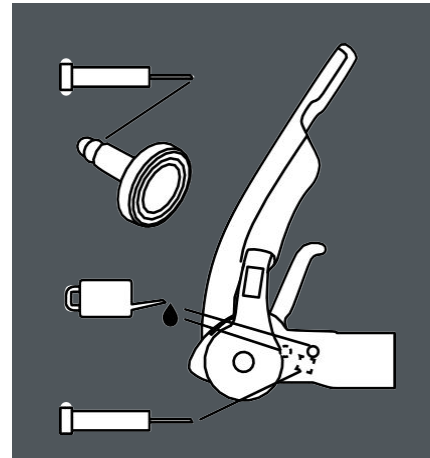

Fig 21 Lubrication points
- b. Areas may only be covered with a thin film of grease (Fig 21).